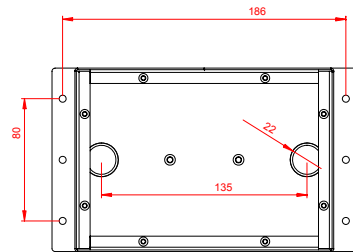

Fig.2
3. Drill mounting holes on a preliminary specified project location of the air duct according to the dimensions Figure 2.